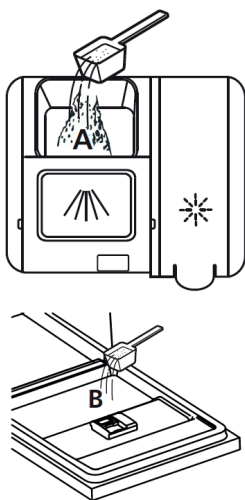

Fig.7
2. Add detergent to the dispenser main chamber (A) just before the washing cycle (Fig. 7). For better cleaning results, especially if you have very dirty dishes, pour a small amount of detergent directly onto the inner door recess (B). The detergent thus added is already activated during the pre-wash phase.